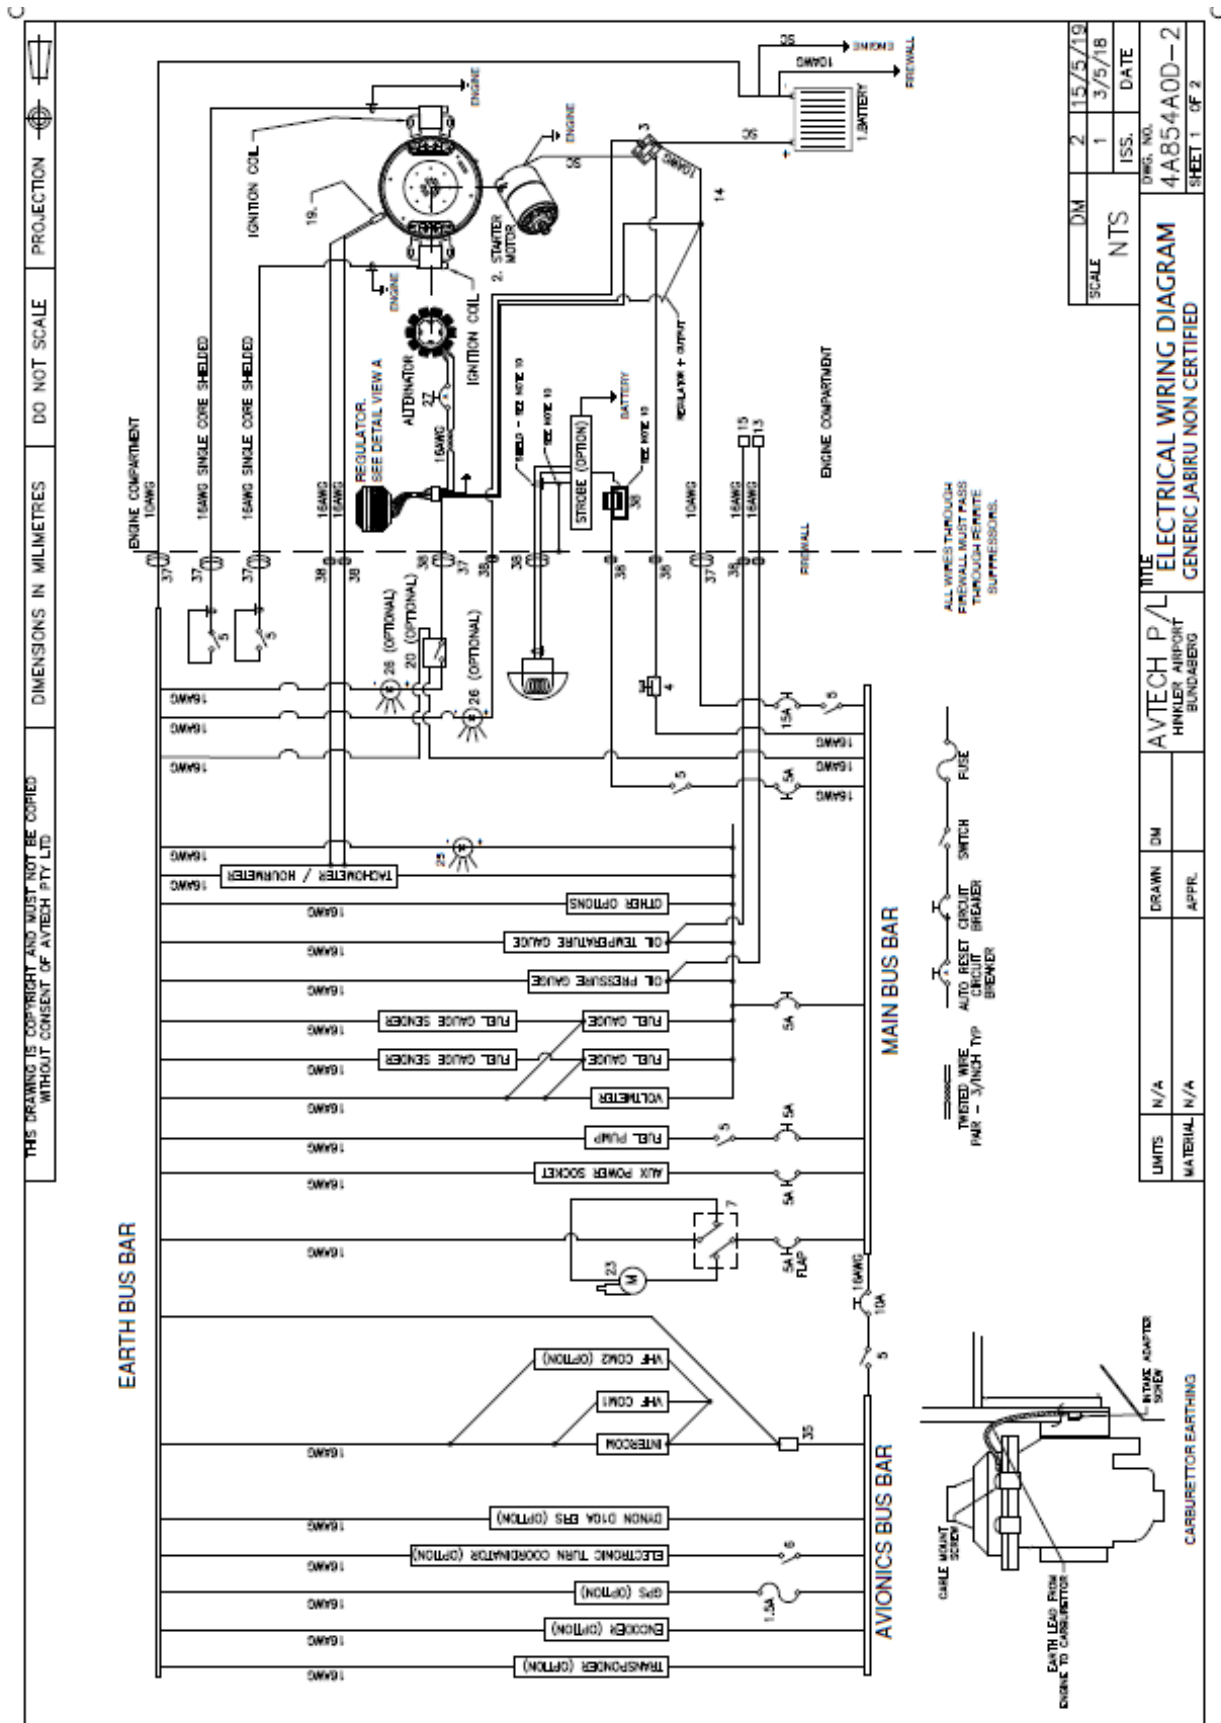
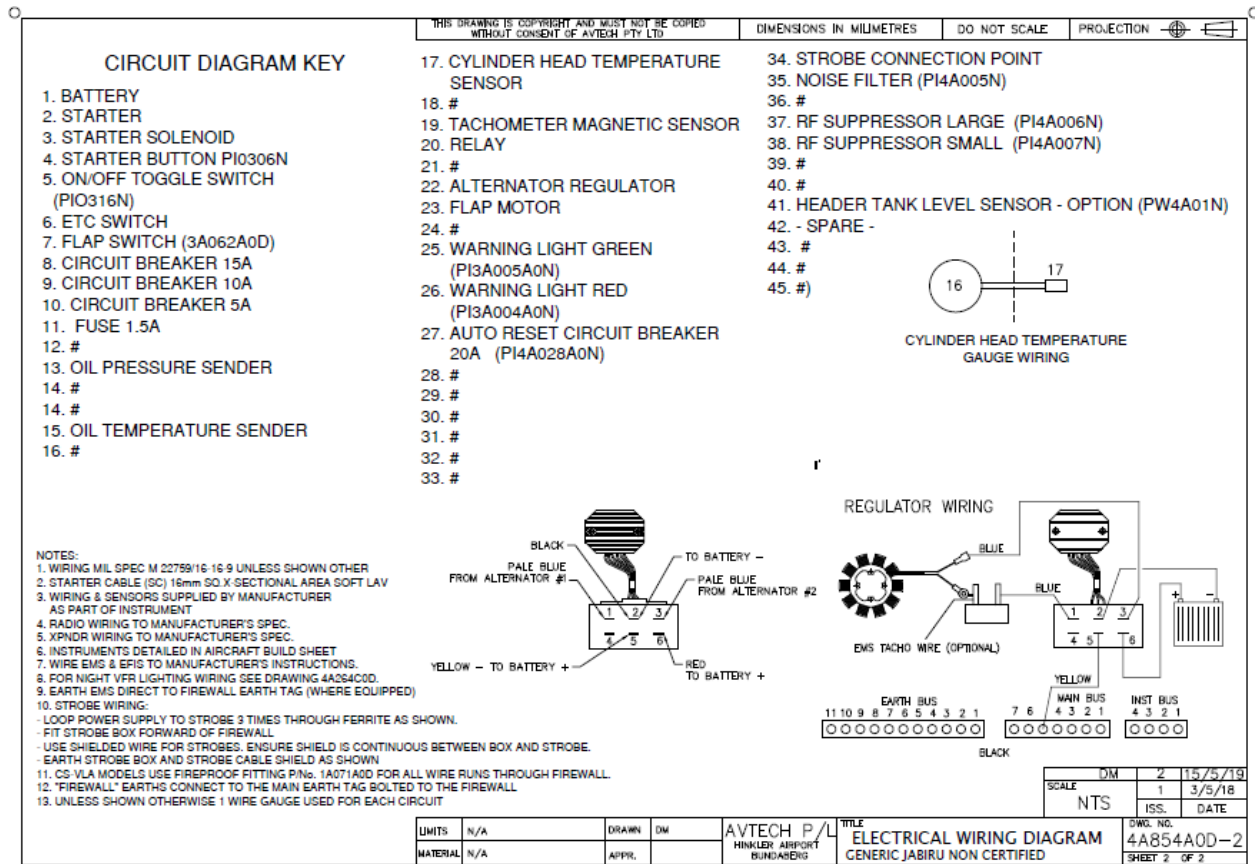

Figure 202 – Wiring Diagram Sheet 1. (all J-Series)
Figure 203 – Wiring Diagram Sheet 2. (all J-Series)
- The wiring diagram for a standard aircraft is shown in Figure 202 and Figure 203.
- For best noise suppression, ferrite beads must be fitted to the power & earth wires leading to the power supply. Shielded wires must be used for the connection to the lights themselves and the shielding must be electrically continuous between the light and the control box. Ensure the box itself is connected to the aircraft's earth with minimum impedance. Refer to Figure 202 and Figure 203